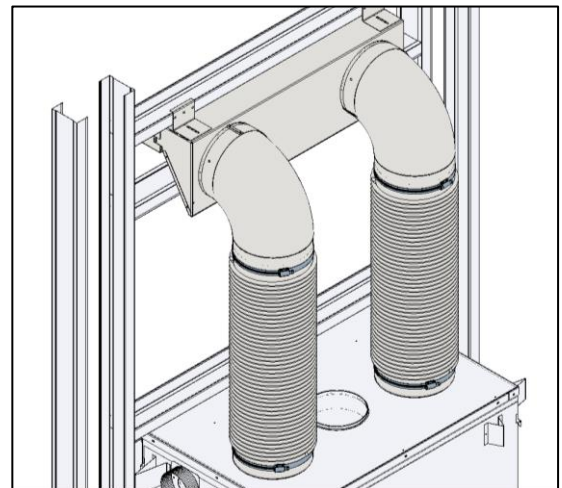

Figure 3-34: The Two Bottom Worm Gear Clamps Tightened
9. Tighten the worm gear clamps to secure the assembly on top of the fireplace (Figure 3-34).